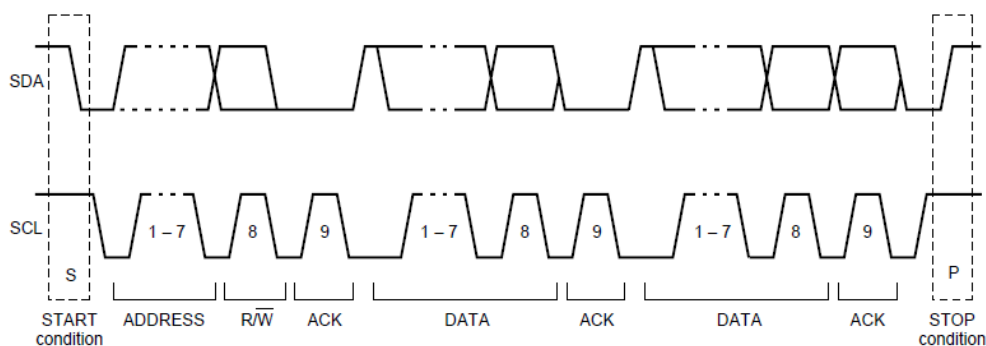

Figure 24–12: I2C Communication Protocol
The I2C communication protocol consists of six components: START, Data Source/Recipient, Data Direction, Slave Acknowledge, Data, Data Acknowledge and STOP. These are shown in **Figure 24–12** and described in the following text.
1. START signal—When no other device is bus master (both SCL and SDA lines are at logic high), a device can initiate communication by sending a START signal (see A in **Figure 24–12**). A START signal is defined as a high-to-low transition of SDA while SCL is high. This signal denotes the beginning of a data transfer (each data transfer can be several bytes long) and awakens all slaves.
2. Slave address transmission—The master sends the slave address in the first byte after the START signal (B). After the seven-bit calling address, it sends the R/W bit (C), which tells the slave the data transfer direction.